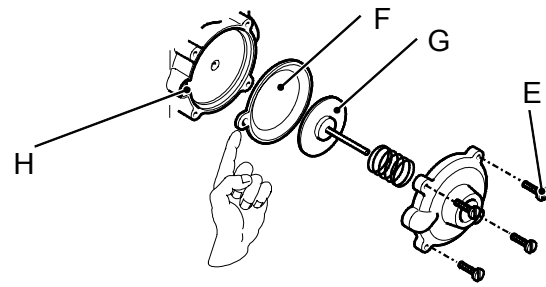

Figure 5
- 3) Unscrew the four screws E (see Figure 5) open the hydraulic operator and remove the membrane F.
**When assembling the membrane, ensure that its concave side faces towards the actuator plate G and the reference indicated aligns with the seat H (see Figure 5).**